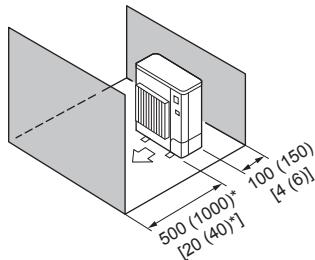

Fig. 2-10
⑤ Obstacles at front and rear only (Fig. 2-10)